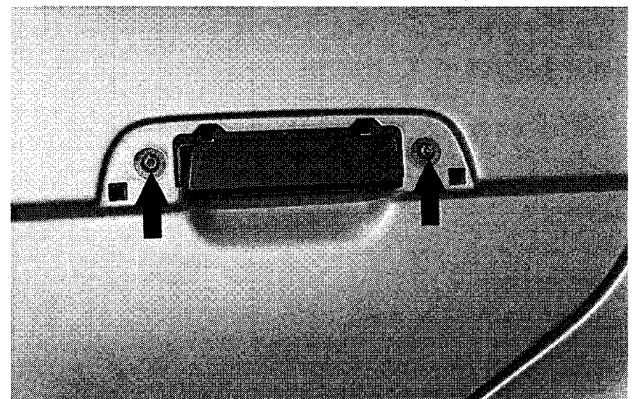

Fig. 14. Rear door handle mounting screws (arrows).
5. Remove door handle mounting screws while supporting handle. See Fig. 14.